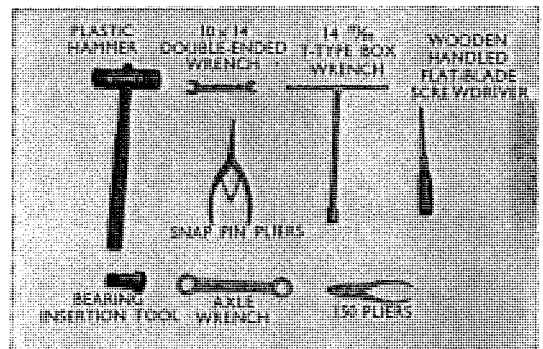

Fig. 4.82 Tools required for disassembly and assembly of rear wheel
1. Tools required for disassembly and assembly of the rear wheel. (Refer to Fig. 4.82)